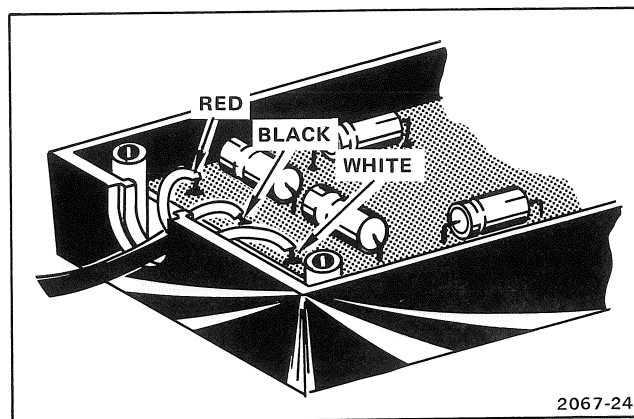

Figure 5-4. Power supply.
7. Unsolder the three power supply wires from the circuit board (see Fig. 5-4).
3. Unsolder the three power supply cable wires from the probe control body circuit board (see Fig. 5-4).
6. Unsolder the three power supply cable wires from the power supply circuit board (see Fig. 5-4).